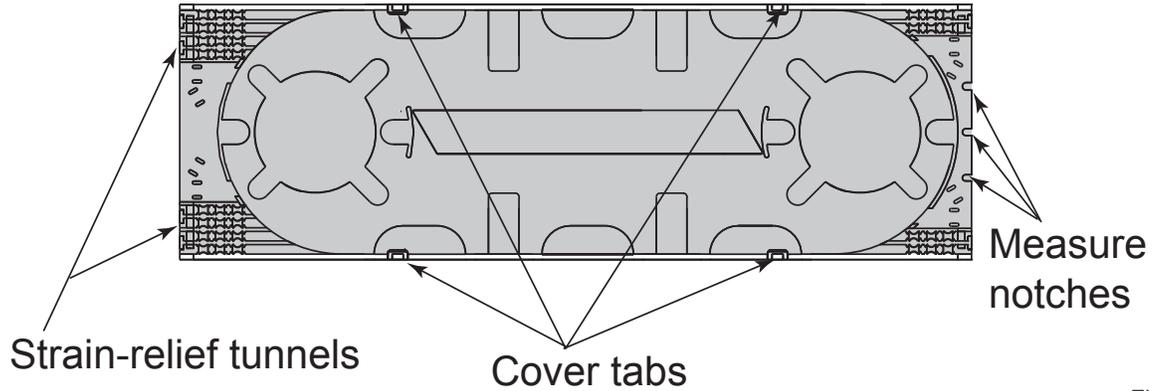

Figure 1
The UST-024 plastic splice tray is factory assembled for discrete heat shrink fusion splices (UST-024-10), mechanical splices (UST-024-20), or up to twenty-four single fusion splice elements (UST-024-30). The tray may also be assembled after purchase (UST-024) by installing one of the three splice holder elements contained in the package (Figures 1 through 4).
- Always position the cover on the tray so that the company logo is upright and the buffer tube measurement tabs are to the right (Figure 1). If the cover is positioned upside down, it will either not stay in place under the tabs or extend too far to the right.